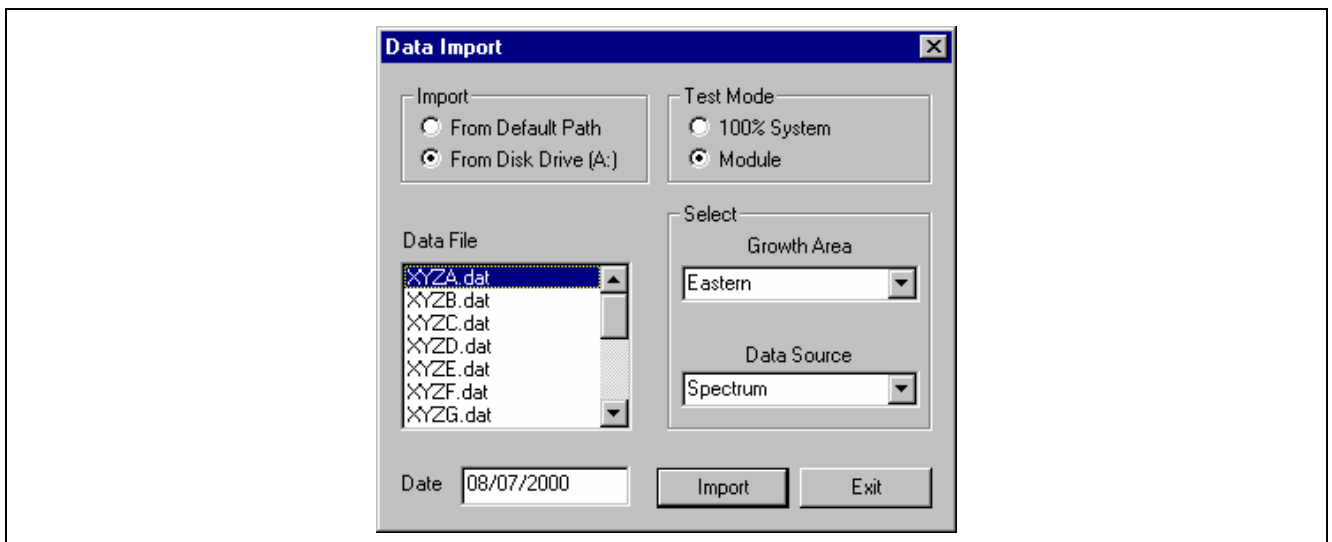

Fig. 6-74 Data Import, Screen III
24.3 The Data Import window of Fig. 6-74 will appear showing a list of Lot ID's. (It may be necessary to select "From Data Path" then back to "From Disk Drive A" to see the list of Lot ID's under "Data File".